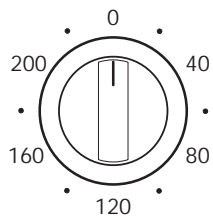

fig. 7
- The deep-fryer can be set to between 40 and 200 °C with the thermostat knob (Fig. 7). The deep-fryer has been fitted with a limiter and is therefore protected against too high a temperature.